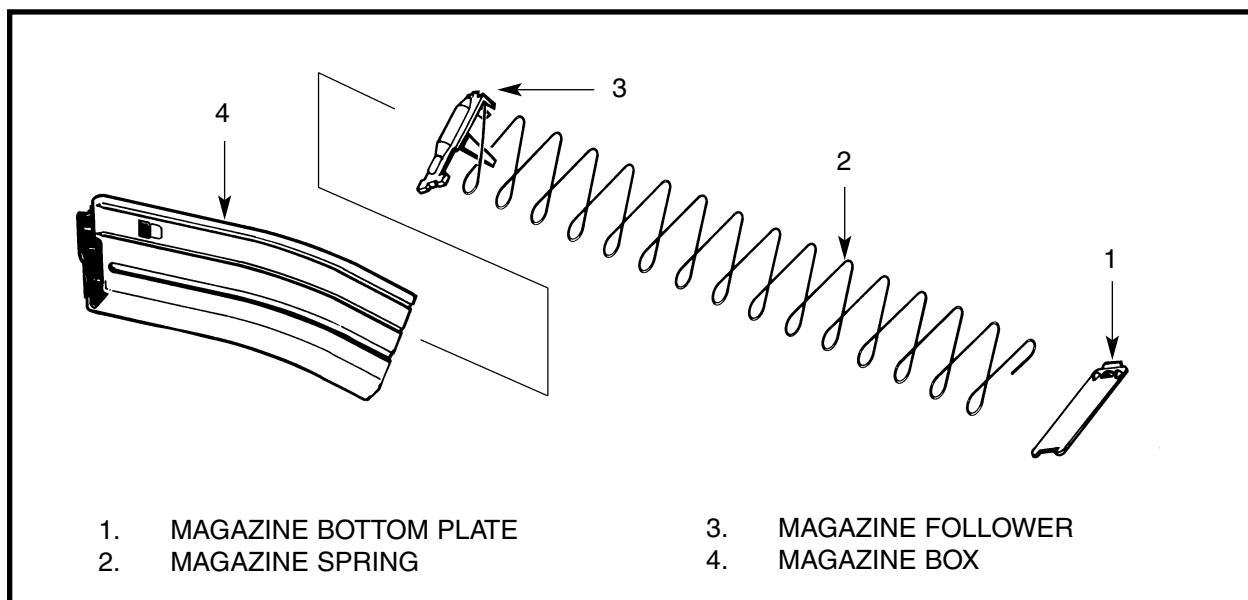

Figure 3-2-63 Assembling and Disassembling the Metal Magazine
80. To reassemble the metal magazine see figure 3-2-63 and proceed as follows:
- a. Assemble the spring (2) to the follower (3);
- b. Insert the follower and spring into the magazine box (4);
- c. Use the bottom plate (1) to control the spring and push it into the magazine box; and